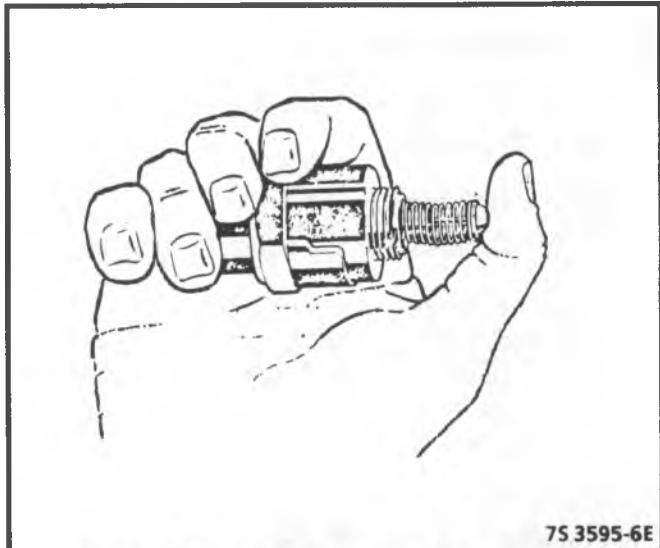

Figure 4-22 - Adjusting IAC Valve - TBI 220
- Exert firm pressure, with a slight side-to-side movement on valve pintle to retract it (Figure 4-22).